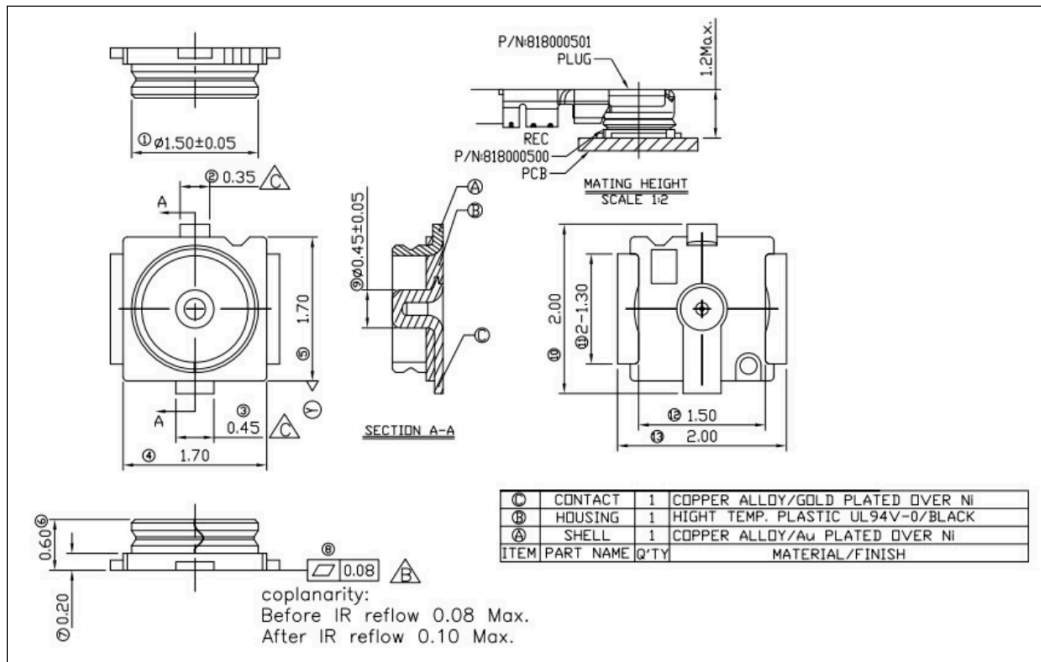

Figure 10-3. Dimensions of External Antenna Connector
ESP32-C5-MINI-1U uses the fourth generation external antenna connector as shown in Figure 10-3 *Dimensions of External Antenna Connector*. This connector is compatible with the following connectors:
- The connector matches the specifications shown in Figure 10-3 *Dimensions of External Antenna Connector*